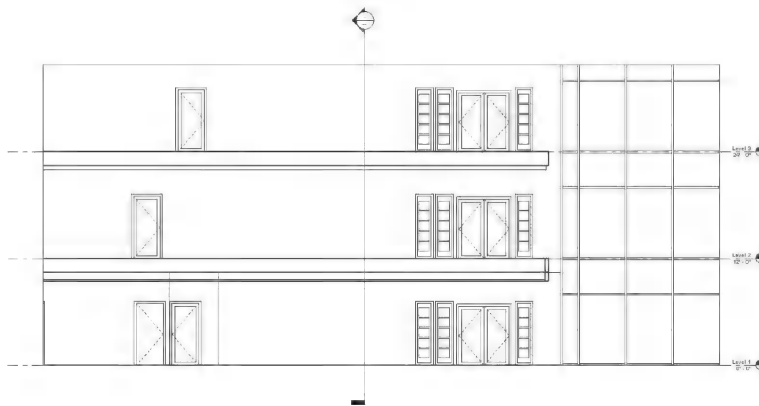

FIGURE 10-2.3 East Atrium view
6. Switch to the **East Atrium** view (Figure 10-2.3).